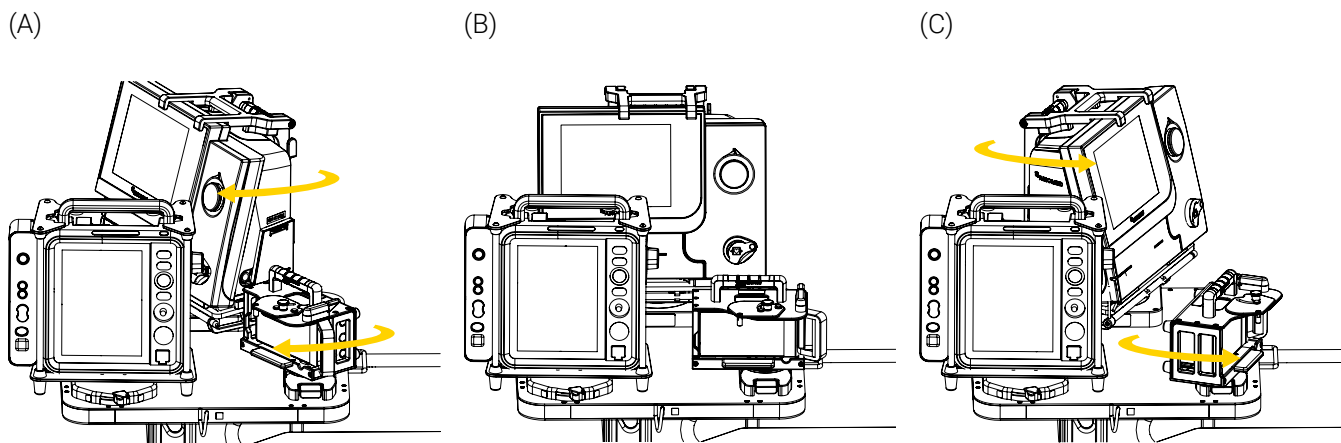

Figure 43: Rotating the medical devices
3. Turn the medical device up to 360° clockwise or counterclockwise to the desired position (Figure 43).